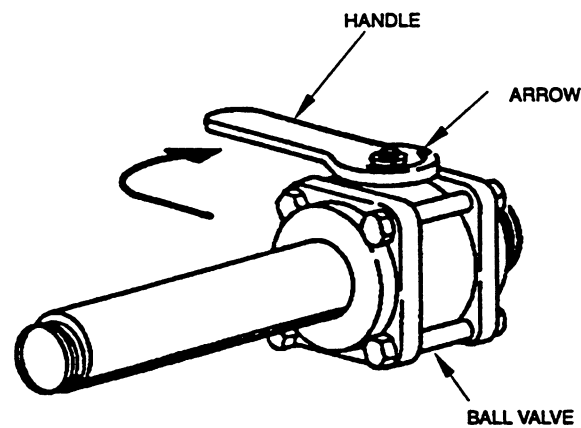

Figure 6. Closing the Ball Valve
1. Turn the handle on top of the ball valve unit (see Figure 6) to the close position (indicated by an arrow on the handle).